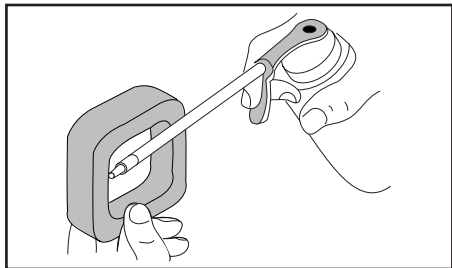

Fig. 24
4. Apply enough clean motor oil to lightly coat the filter (Fig. 24).